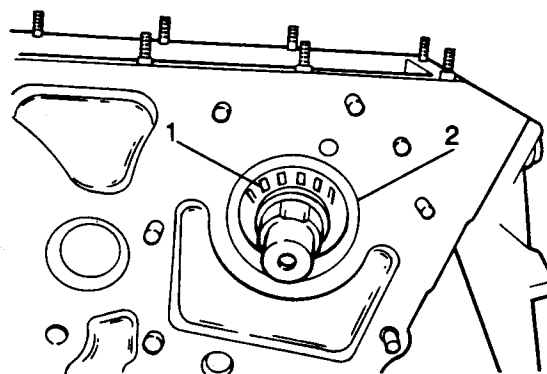

Fig H2.27
- (5) Refer to Fig H2.27. Fit the conical roller bearing (1) to the front of the shaft.
- (6) Install the front bearing outer track (2) and retain it with the circlip.